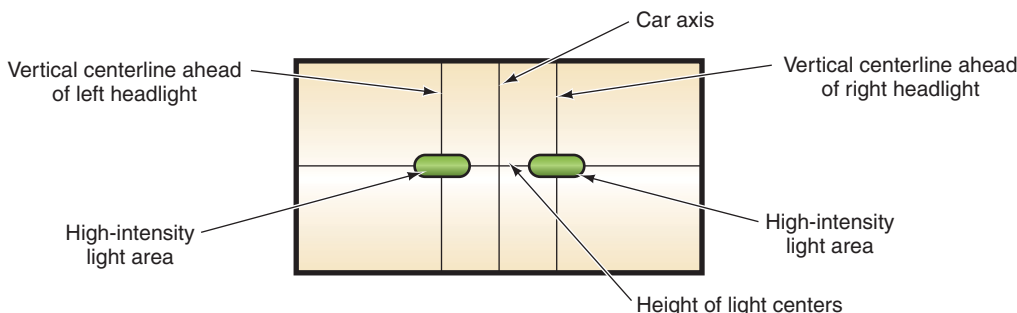

FIGURE 8-8 High-beam headlight aiming adjustment pattern.
2. High beam: In the horizontal plane, the center of the headlight high-intensity area should be within 4 inches (102 mm) to the right or left of the vertical centerline of the lamp. In the vertical plane, the center of the headlight high-intensity area should be within 4 inches (102 mm) above or below the horizontal centerline of the lamp (Figure 8-8).